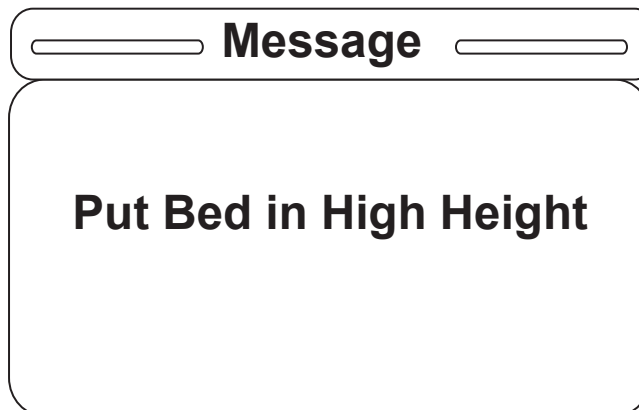

Figure S-29
27. The burn-in height routine will display different messages depending on if the user chooses to activate the Zoom®/Batt. option. **If the Zoom® or Battery Backup option is activated**, the message in Figure S-29 will be shown on the screen. If the Zoom®/Battery Backup option was deactivated, then the message would display: “Put Bed in Low Height.” Drive the bed to its high or low height (depending on the message displayed) and hold the Bed Motion Lock. The screen will display the message “Hold to Set Height Limits.” Once the lock button is held for two seconds, the message “Release Button” will flash.